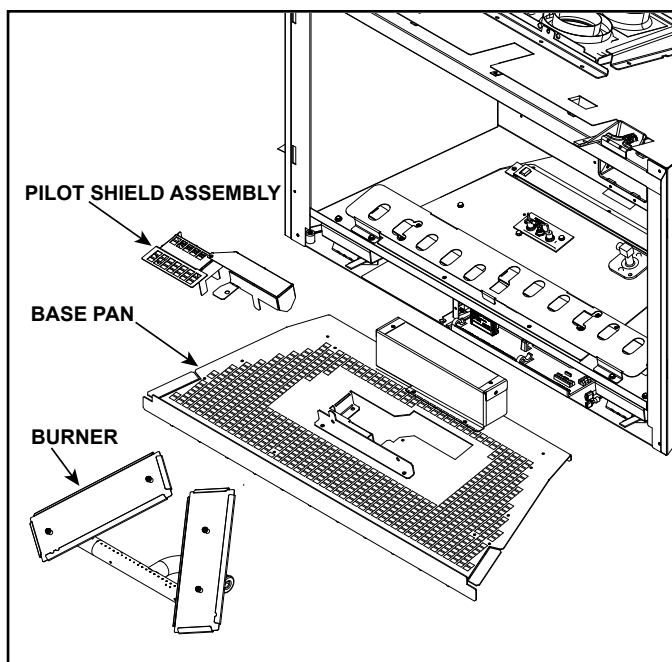

Figure 6.5 Remove Pilot Shield Assembly, Burner Assembly and Base Pan Assembly
1. Remove decorative barrier front, glass assembly, logs, glass media, pilot shield assembly, burner assembly, base pan assembly and valve plate assembly. See Figure 6.5.
To access the pilot and burner assemblies, removal of the pilot shield assembly, burner assembly and base pan assembly is required. See Figure 6.5.